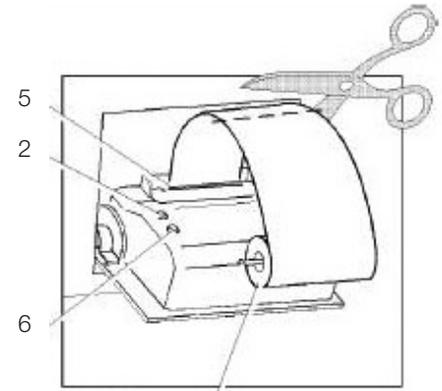

Figure 3.2
To replace the paper roll (3), proceed as follows (see Figure 3.2):
1. With scissors, cut the paper between the roll (3) and the paper feed slot (5)
3. Press the paper advance button (6) to feed the paper that remains in the printer out of the slot at the front of the printer.